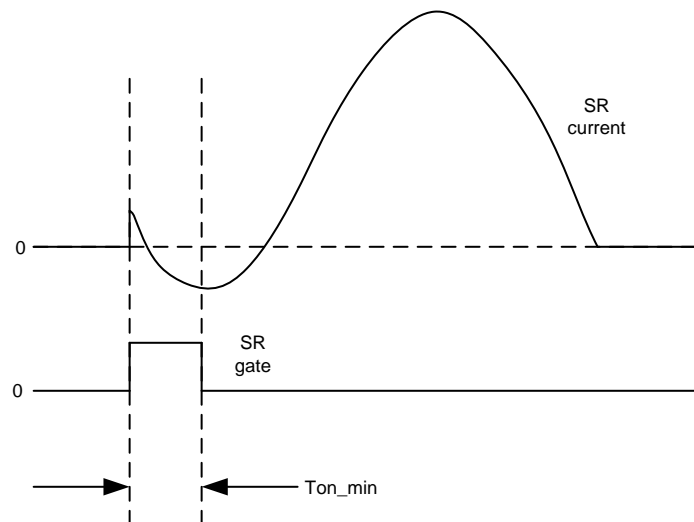

图 20. SR current with leading edge spike
- Short SR conduction time. At light load, the SR current could start with a short leading edge spike of positive current, followed by the negative current, and then the full positive current, as shown in 图 20. This is caused by the SR parasitic capacitance and the LLC resonant behavior. When the negative current appears, the SR is turned off with minimum on time (on-time blanking). This is the indication that the leading edge current spike causes abnormal operation. Once the short SR conduction time is detected, the IC sets the turn-on delay to 275 ns. This long turn-on delay can further help to reject the leading edge current spike. It also helps to provide better DCM ring rejection during burst mode operation, since the burst mode operation only happens at light load. This increased turn-on delay time is reset when the SR voltage drop is more than 40 mV ( $V_{DS}$  more negative than -40 mV) at the middle of its conduction time for 8 consecutive cycles.